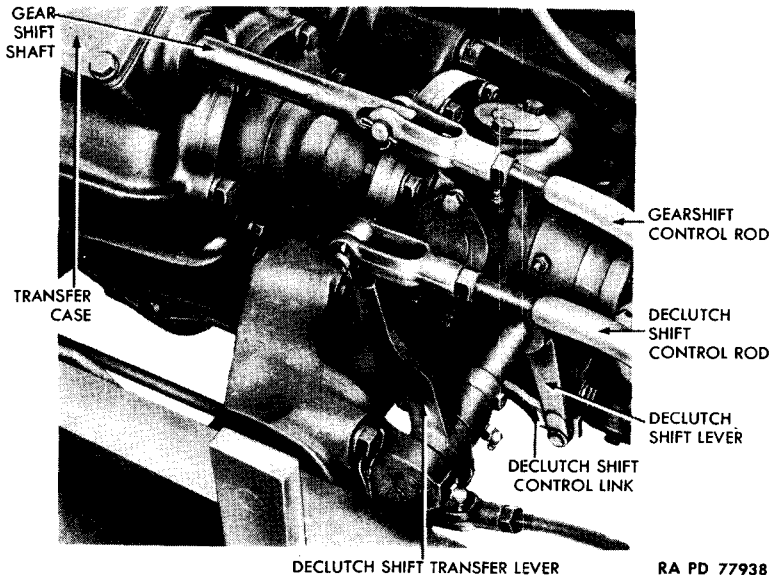

Figure 55 – Transfer Case Linkage
(1) **DISCONNECT GEARSHIFT CONTROL ROD** (fig. 55). Remove the cotter pin, clevis pin, and flat washer from each end of rod, and remove rod.
(2) **REMOVE DECLUTCH SHIFT CONTROL ROD** (fig. 55). Remove the cotter pin, flat washer, and clevis pin at each end, and remove rod.
(3) **DISCONNECT DECLUTCH SHIFT LEVER** (fig. 55). Remove the cotter pin, flat washer, and clevis pin which secure lever to declutch shift control link.
(1) **CONNECT DECLUTCH SHIFT LEVER** (fig. 55). Position lever to declutch shift control link. Secure with clevis pin, flat washer, and cotter pin.
(2) **CONNECT DECLUTCH SHIFT CONTROL ROD** (fig. 55). Position rod between declutch shift hand lever and declutch shift transfer lever. Secure with the clevis pin, flat washer, and cotter pin at each end.
(3) CONNECT GEARSHIFT CONTROL ROD (fig. 55). Position rod between gearshift hand lever and gearshift shaft. Secure with the clevis pin, flat washer, and cotter pin at each end.
- c. Remove Declutch Shift Control Rod (fig. 55) (par. 97).